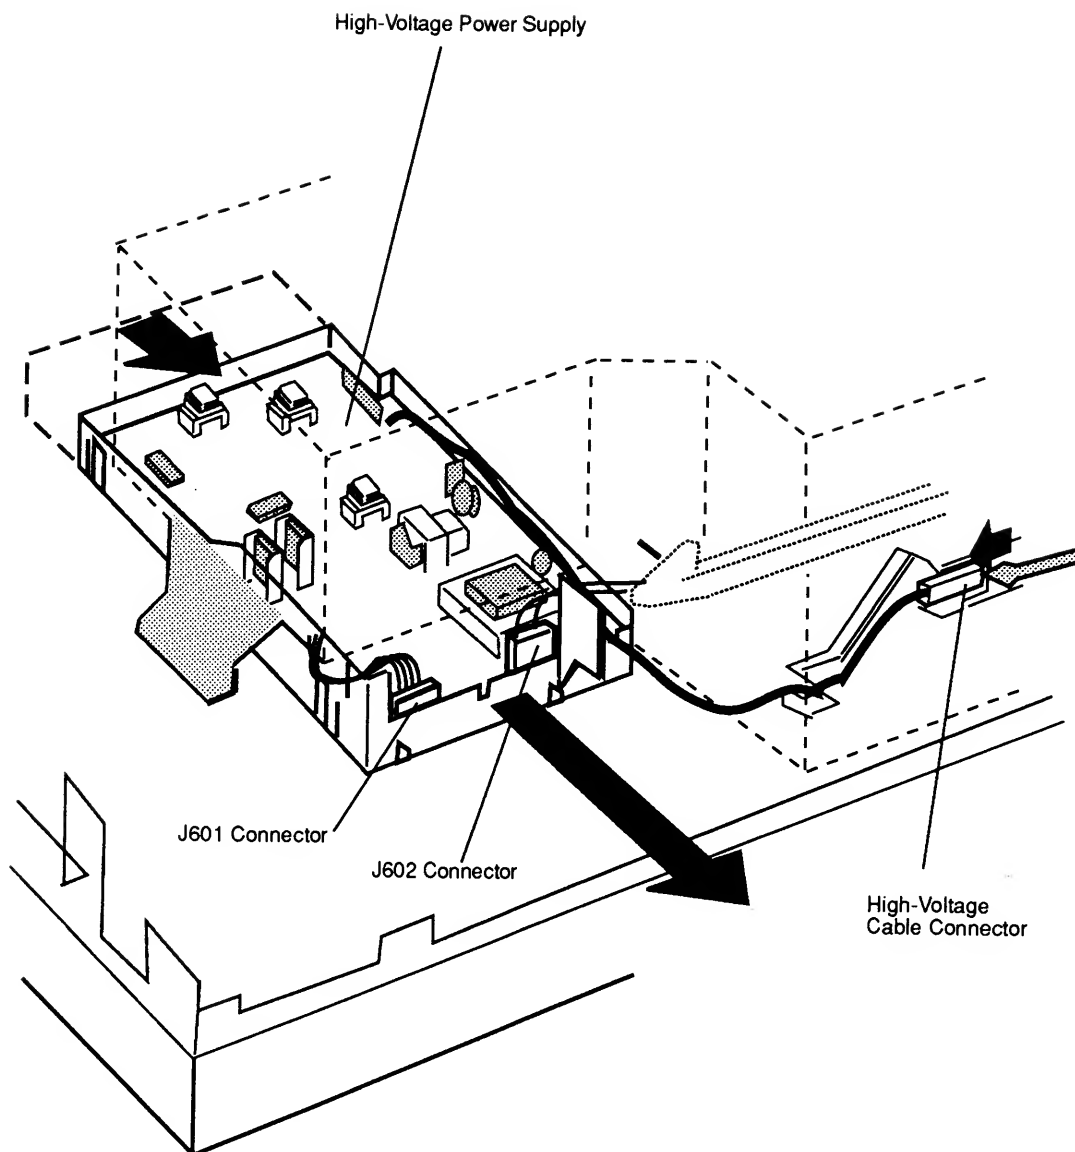

Figure 2-24 High-Voltage Power Supply
4. Pull the plastic tray containing the high-voltage power supply from under the scanner assembly **(Figure 2-24)**.
5. Disconnect connectors J601 and J602 from the high-voltage power supply **(Figure 2-24)**.
6. Disconnect the black, high-voltage cable connector from the high-voltage contact assembly **(Figure 2-24)**.
2. Reconnect the black, high-voltage cable connector to the high-voltage contact assembly **(Figure 2-24)**.
3. Reconnect connectors J601 and J602 to the high-voltage power supply **(Figure 2-24)**.